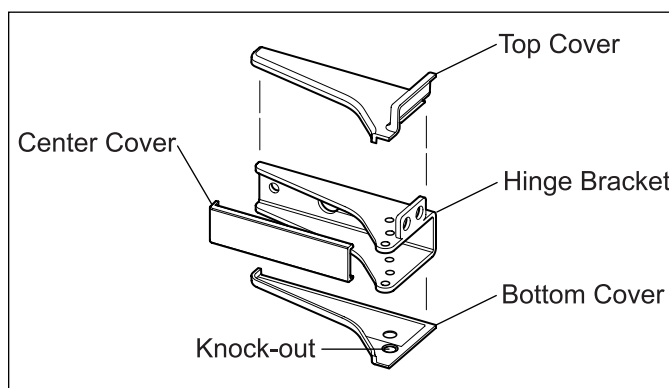

Figure 2-11. Hinge Cover Installation
- If the 90° stop pins are installed, it will be necessary to remove the knock-outs from the hinge cover opposite the head of the pin. (See Figure 2-11)
1. Remove backing paper from adhesive pads of upper and lower hinge covers, then adhere covers to top and bottom of each hinge bracket as shown in Figure 2-11.
2. The center hinge covers are magnetic. Install them to center of each hinge bracket as shown in Figure 2-11.